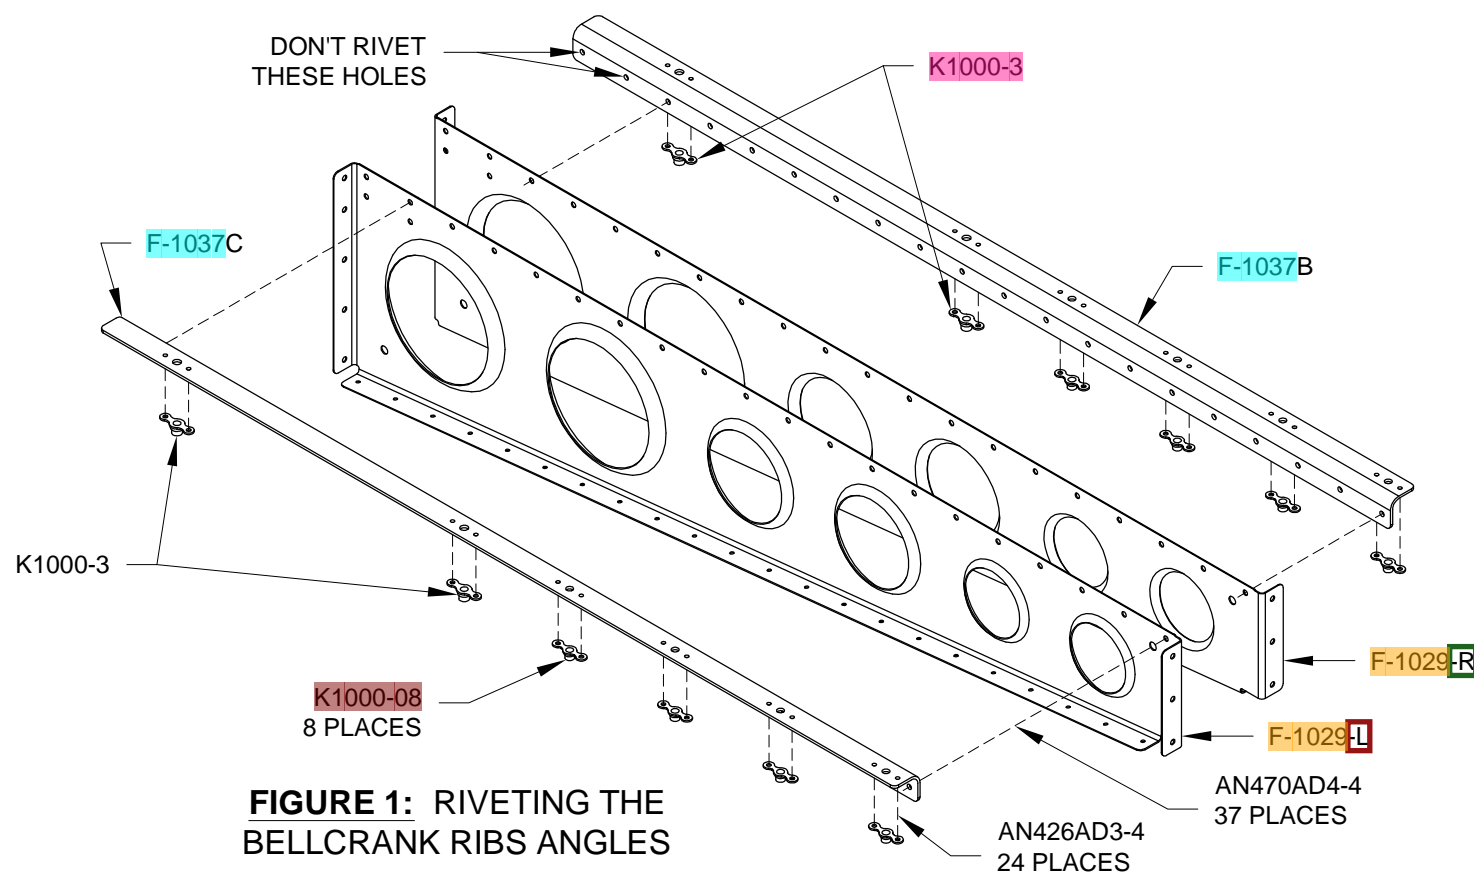

FIGURE 1: RIVETING THE BELLCRANK RIBS ANGLES
Step 3: Cleco the F-1029 Bellcrank Ribs to the F-1078 Forward Bottom Skin, the F-1006 Bulkhead, and the F-1007 Frame. Rivet the bellcrank ribs to the skin using the rivets called out on Page 10-25, Figure 1. Rivet the bellcrank ribs to the F-1007 Frame using AN470AD4-4 rivets. Do not rivet to the F-1006 Bulkhead.